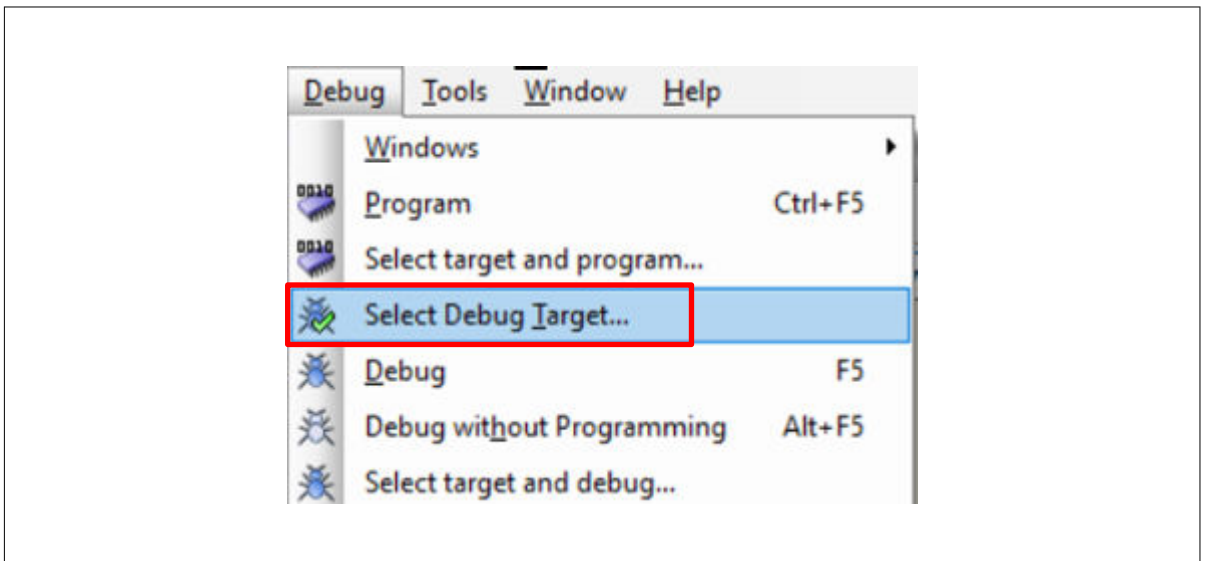

Figure 48 Selecting debug target
1. Select the PSOC™ Creator menu item **Debug > Select Debug Target**, as shown in Figure 48.